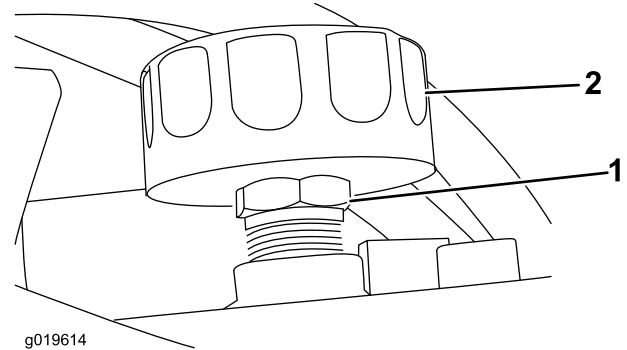

Figure 8
5. If the oil level is low, remove the breather/filler cap from the top of the hydraulic tank (Figure 8), and add enough of the specified hydraulic fluid to raise it to the proper level.
6. Install the breather/filler cap. Wipe up any spilled hydraulic fluid (Figure 8).